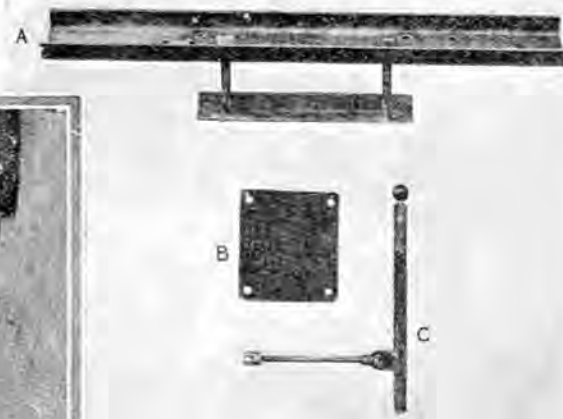

Fig. 2. A—Gearbox anchoring jig. B—Gearbox cover. C—Clutch spring extractor.
5. Remove clutch cover and gear lever cover assembly, then remove the clutch springs by using extractor "C," Fig. 2. Now fit a temporary sheet-metal cover over gearbox as shown by "B," Fig. 2. This prevents any foreign matter entering the box.
6. The gearbox anchoring jig "A," Fig. 2, can now be fitted. This jig is a simple device, comprising a length of "U" section girder 27½ inches long (in this case a piece of an old chassis side member is used), two studs, and 12 inches of 1¼ by ¼ inch angle iron. Two ½ inch clearance holes are drilled in the girder 9 inches apart and equidistant from centre. Four holes are drilled in the angle iron, two being ⅜ inch diameter at 4½ inches apart and two suitable for tapping with ½ inch thread at 9 inches apart, both pairs of holes being equidistant from the centre.